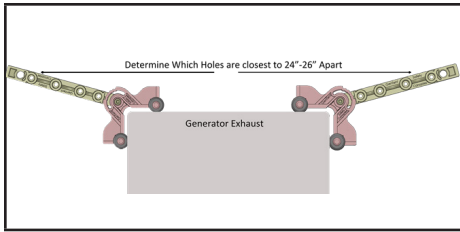

Figure 13: Find the Correct Exhaust Side Frame Rod Holes
- Insert a fiberglass frame rod into Central Connector hole until it stops (figure. 13).